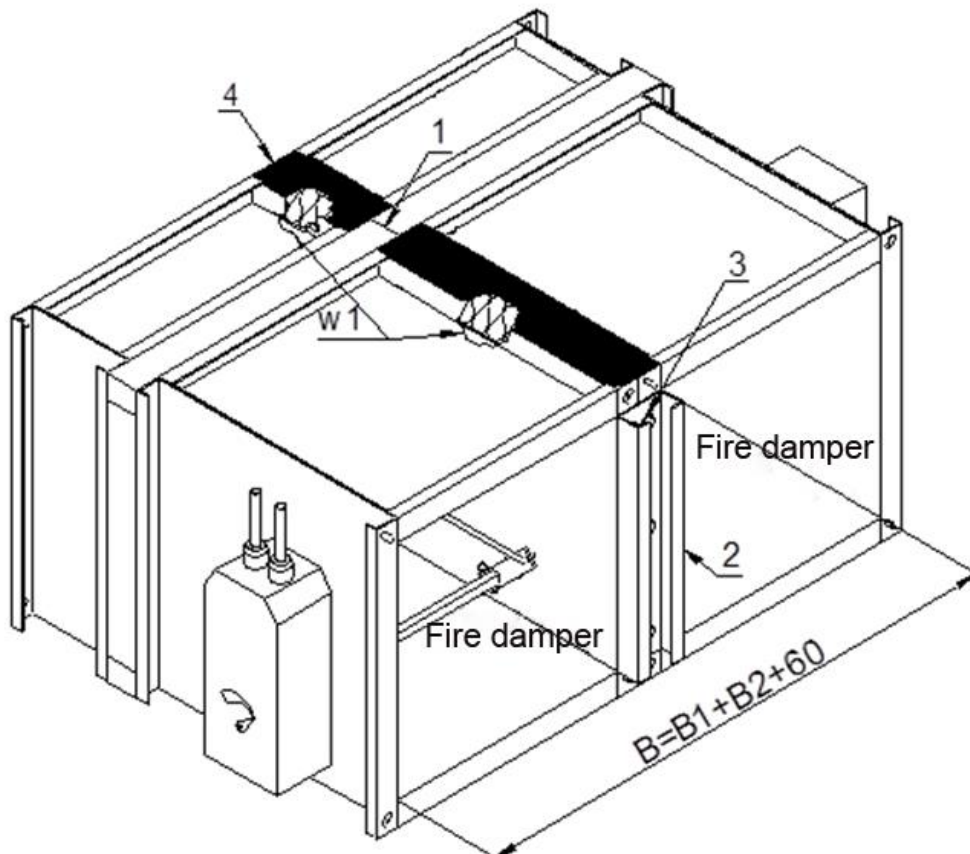

Figure 4. Arrangement 3 - horizontal battery consisting of two fire dampers KWP
**Arrangement 3 – horizontal battery consisting of two fire dampers KWP (Figure 4)**
1. Fix the gasket on insulating spacer of one of adjoining fire dampers (position (1) in the Figure 4).
2. Set together the sides of fire damper A and the fire damper B (where the gasket was fixed) and assemble them together on the front and back with use of perforated assembly strips (2) and self-tapping screws M6x16 (3), which should be tightened into the openings in fire damper body. In order to carry out the correct assembly, 4 self-tapping screws should be used per each assembly strip with length of 1200 [mm].
4. The place of sealing the top of the fire damper with mineral wool should be sealed with aluminum tape (4).
1. Fix the gasket on insulating spacer of one of adjoining fire dampers (position (2) in the Figure 4).